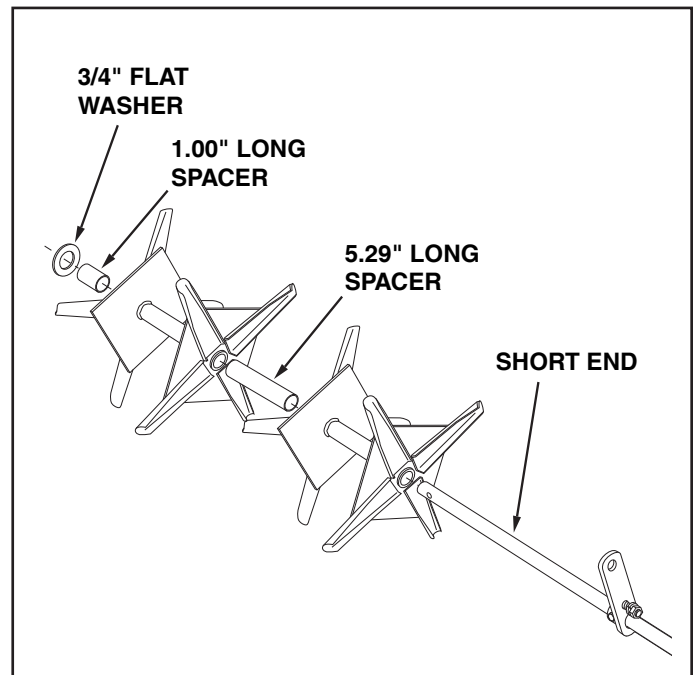

FIGURE 3
5. Assemble a double spool assembly, a 5.29" long spacer, another double spool assembly, a 1.00" long spacer and a 3/4" flat washer onto the **short end** of the shaft. See figure 3.